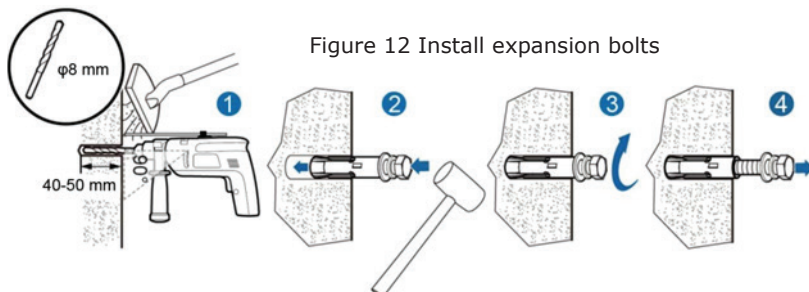

Figure 12 Install expansion bolts
- (3) Fix the expansion bolts to the 4 installation holes with hammer, as shown in Figure 12.